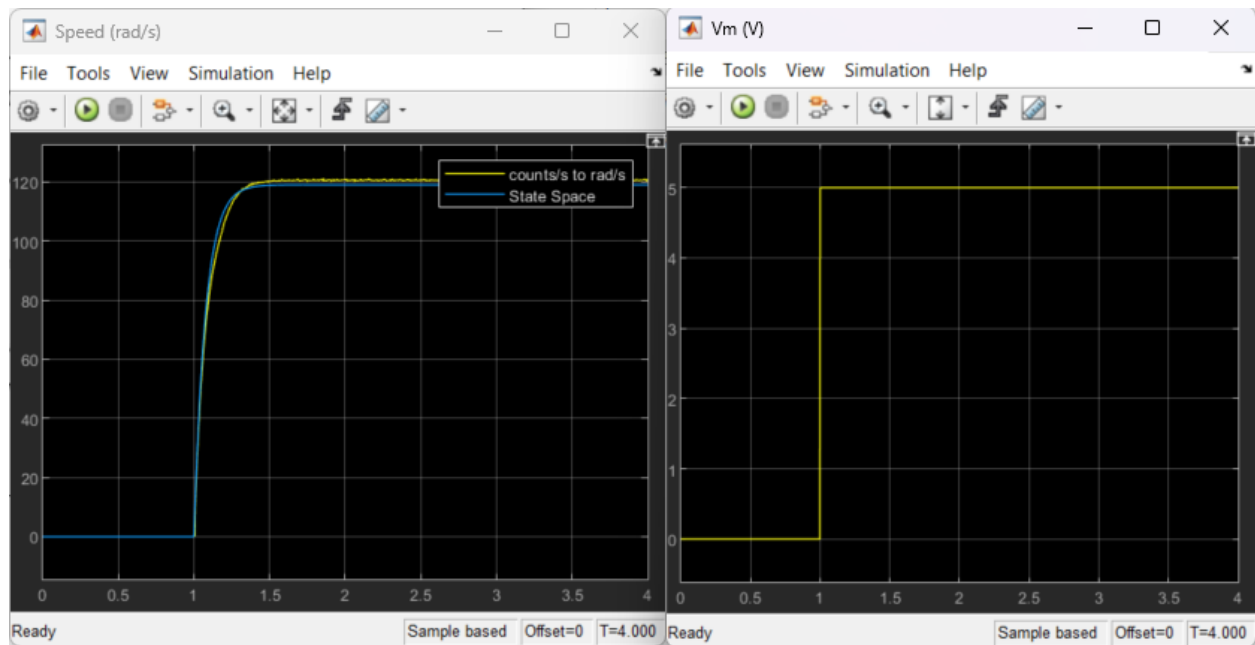

Figure 2: Comparison of the State Space Model with the physical response in the speed scope.
3. Build and run the QUARC controller using the **Monitor & Tune**  button on the **Hardware** or **QUARC** tab. The response should be similar to the scope in Figure 2.